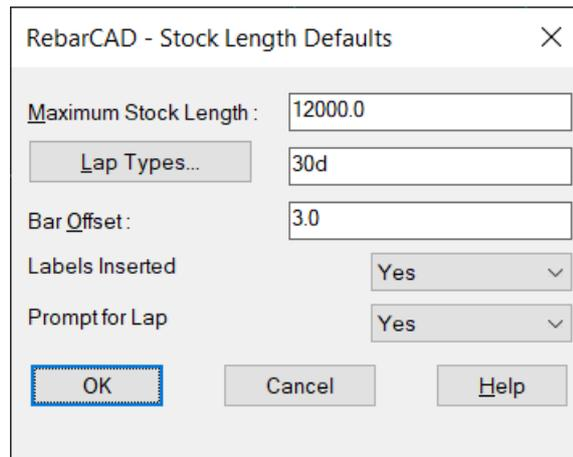

Figure 7.5:1 Stock Length Defaults dialog
- ▶ If you type **S** for Stock the dialog shown in figure 7.5:1 below is displayed. This allows you to amend the *Maximum Stock Length* value and if you then attempt to stretch the bar(s) over this value **RebarCAD** will automatically invoke the *Over Stock Length* feature discussed earlier in Section 4.4. Select OK to return to the command.